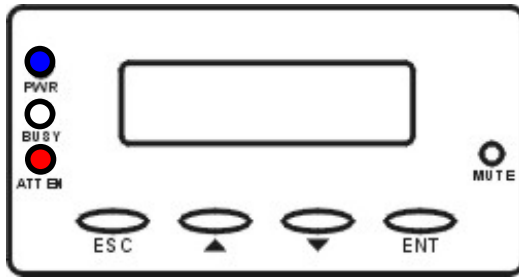

Fig. 4.1 LCD Panel
The LCD panel shown in *Figure 4.1* consists of five (5) buttons, three (3) LEDs, and a 16x2-character LCD screen that indicates subsystem status. Press “ENT” button for two (2) seconds on the initial screen to enter the main menu. Press the “ESC” button to clear current event.